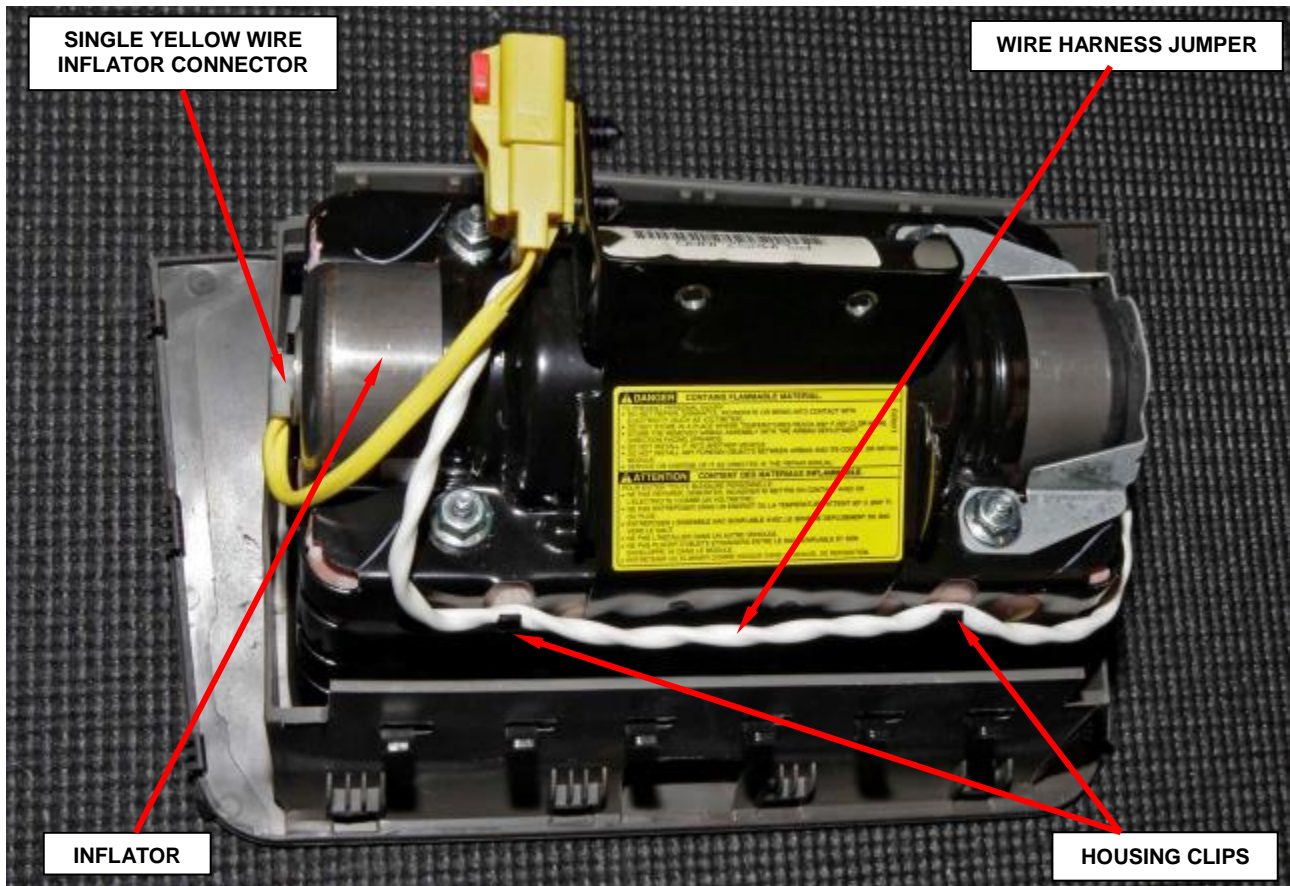

Figure 16 – Passenger Airbag Assembly
- b. Disengage the wire harness jumper from the housing clips in two places (Figure 16).
- c. Disconnect the single yellow wire inflator connector from the end of the inflator (Figure 16).